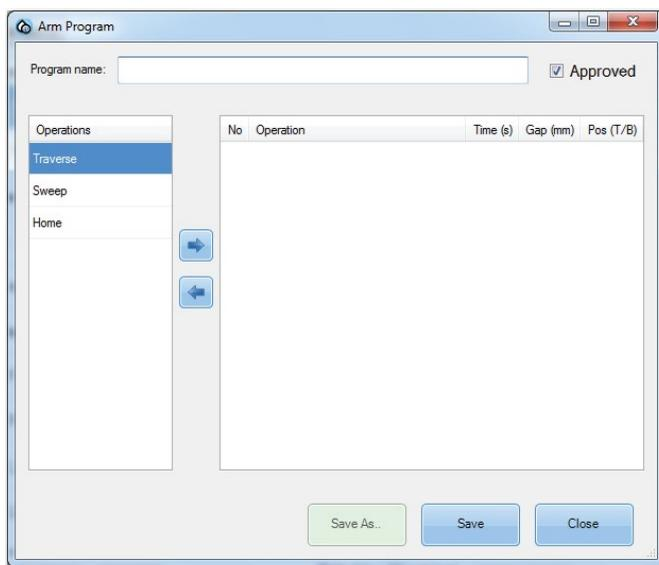

FIGURE 3-4: Creating a new arm program
4. Click the desired module. The Arm Program dialog box opens. See Figure 3-4.